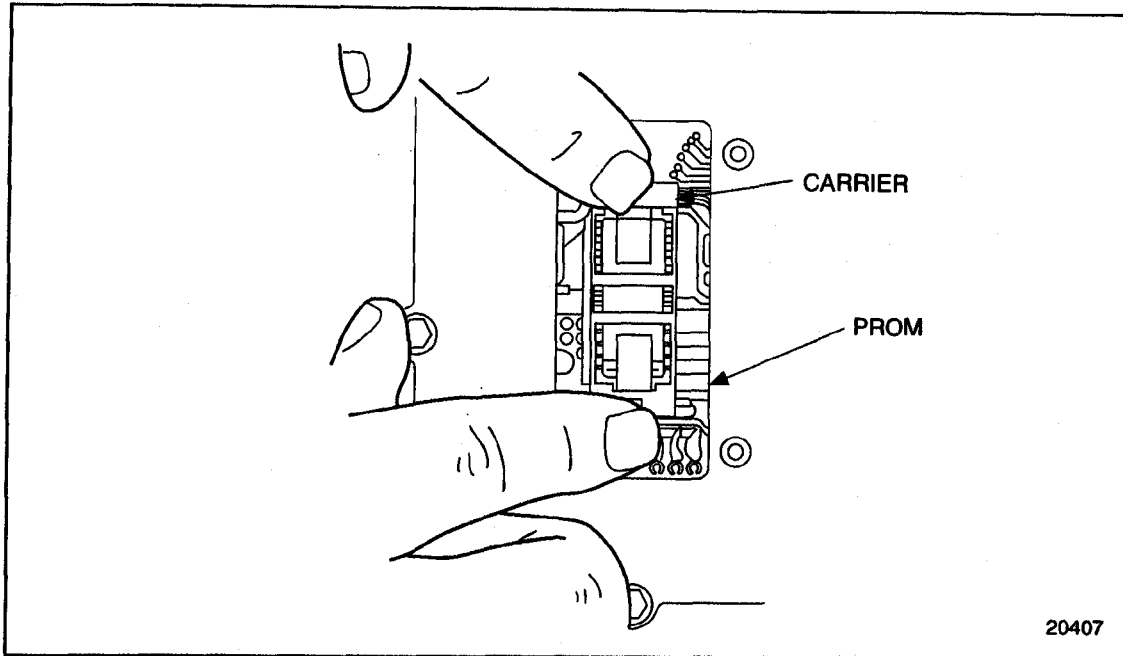

Figure 2-92 Installing PROM
3. Press on the PROM carrier until it is firmly seated in the socket. See Figure 2-92.